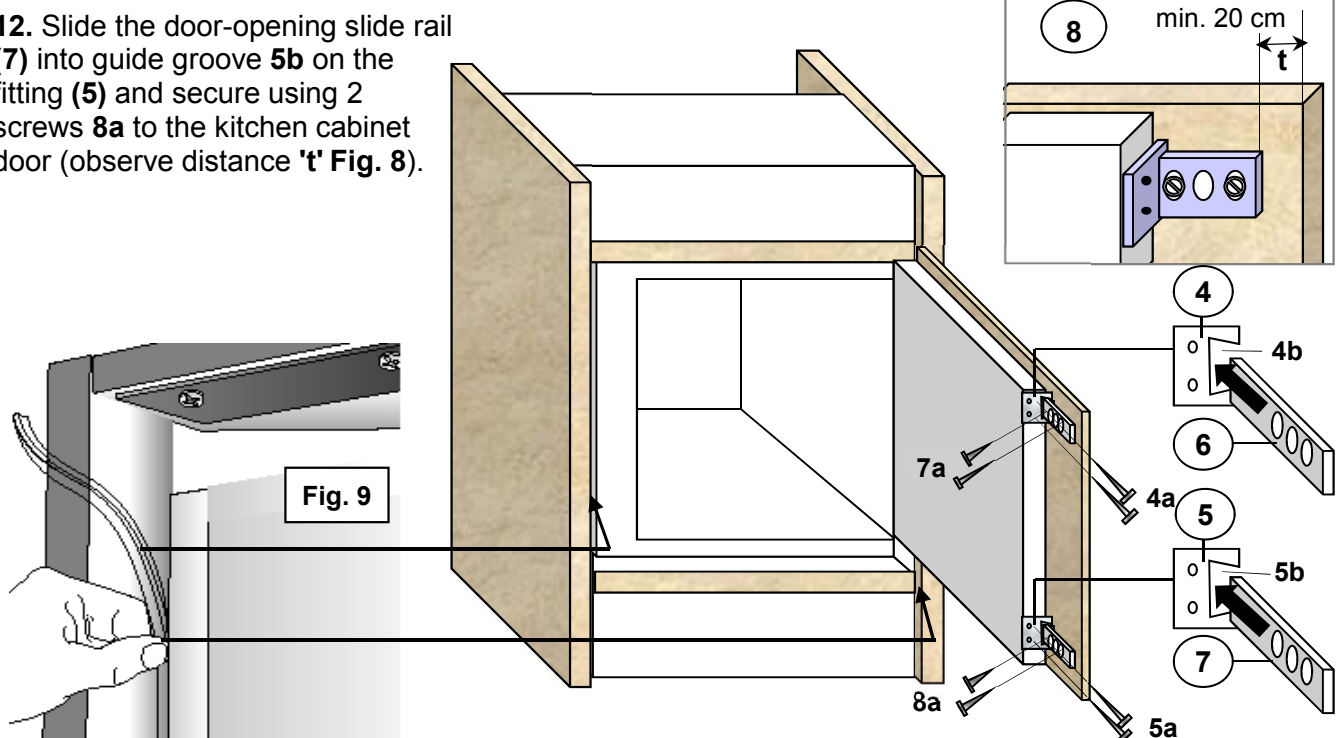

Fig. 9
8. Squeeze sealing strip (Fig. 9) into left and right sides between appliance and cabinet walls.
9. Mount fittings (4) and (5), each with 2 screws 4a / 5a to the refrigerator door.
11. Slide door-opening slide rail (6) into guide groove 4b on the fitting (4) and secure with 2 screws 7a to the kitchen cabinet door.